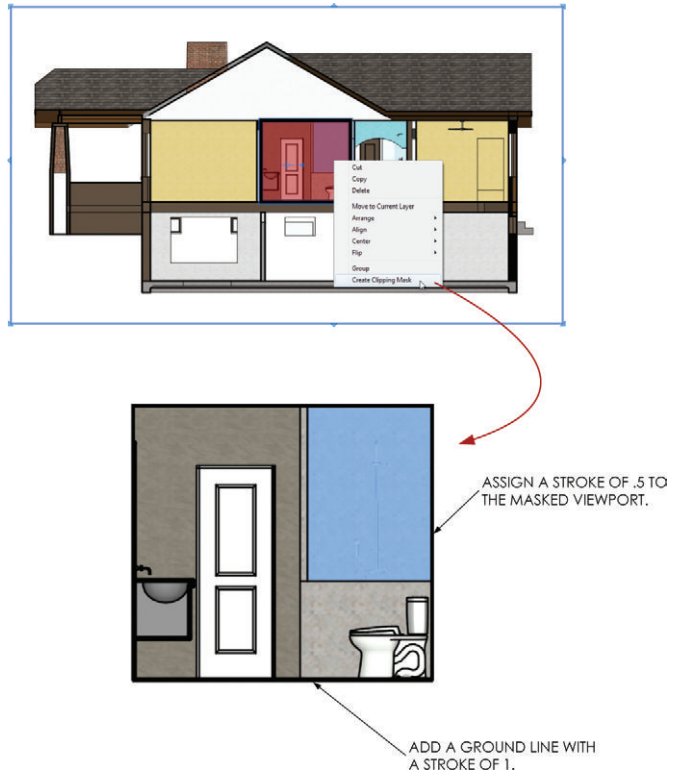

Figure 20.27 The interior elevation
- ❑ Apply a clipping mask in LayOut to isolate the desired portion of the drawing (Figure 20.27).